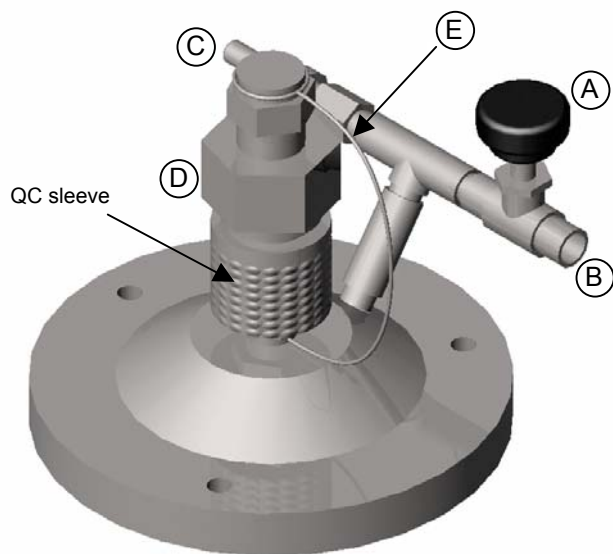
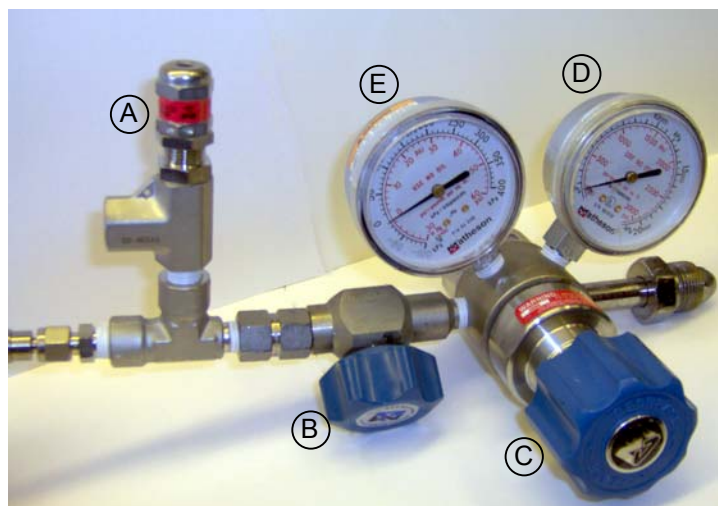

Figure 1 – Part designation of the Extruder Top
Figure 3 – Pressure regulator and pressure relief safety valve on the high-pressure nitrogen gas line.
Carefully place the Extruder top [8] onto the thermobarrel [3]. The Extruder top should be positioned onto the rest of the Extruder so that the male gas quick connect (see figure 1) is pointing away from the outlet tube of the filter base support. This will make sample collection easier.
Couple the assembled 10 mL LIPEX™ Extruder to the nitrogen gas line (which is connected to the regulator (see figure 3) on the nitrogen cylinder) by attaching the female QC adaptor on the nitrogen gas line (see figure 2) to the male QC adaptor located on the Extruder Top (see figure 1). The female and male QC adaptors should “click” together.
4. Open the sample port by pulling upward on the sleeve of the QC inlet cap (see figure 3). Using a glass Pasteur pipette add the prepared EPC MLVs to the Extruder. Close the sample port by pushing the QC inlet cap down and over the sample port until there is a “click”.
5. Verify that the green pressure control valve (see figure 2), the main regulator control valve (see figure 3), and the pressure relief valve on the Extruder top (see figure 1) are in the closed position. Open the valve located on the nitrogen tank. The main tank pressure gauge on the regulator (see figure 3) should now register the pressure of the nitrogen tank in use. The delivery pressure gauge (see figure 3) on the pressure regulator should read zero. The pressure in the tank should be at least 1500 psig to ensure that there is enough nitrogen to complete the extrusion.
6. Set the delivery pressure by turning the dial on the nitrogen regulator clockwise until a reading between 200 and 300 psig (our suggested initial extrusion pressure) is observed. Fully open both the needle valve on the pressure regulator (see figure 3) and then the green pressure control valve (see figure 2). Once both of these valves are open, the lipid should start to extrude. If a sufficient rate of product flow is achieved, close the green pressure control valve (see figure 2); the remaining pressure in the Extruder is usually sufficient to expel the remaining lipid in the Extruder. If the lipid does not extrude or the flow rate is low, re-open the green pressure control valve and increase the nitrogen pressure by turning the nitrogen regulator dial counterclockwise until a sufficient product flow or a maximum of 800 psig of pressure is reached. Once product flow has started, close the green pressure control valve.
7. After the first extrusion pass is complete, close the green pressure control valve and depressurize the Extruder by opening the pressure relief valve on the Extruder top (see figure 1). Once the Extruder is depressurized close the pressure relief valve on the Extruder top. Refill the Extruder with the freshly extruded EPC liposomes and repeat the extrusion process for a total of 10 passes to ensure the final extruded product is homogeneous.